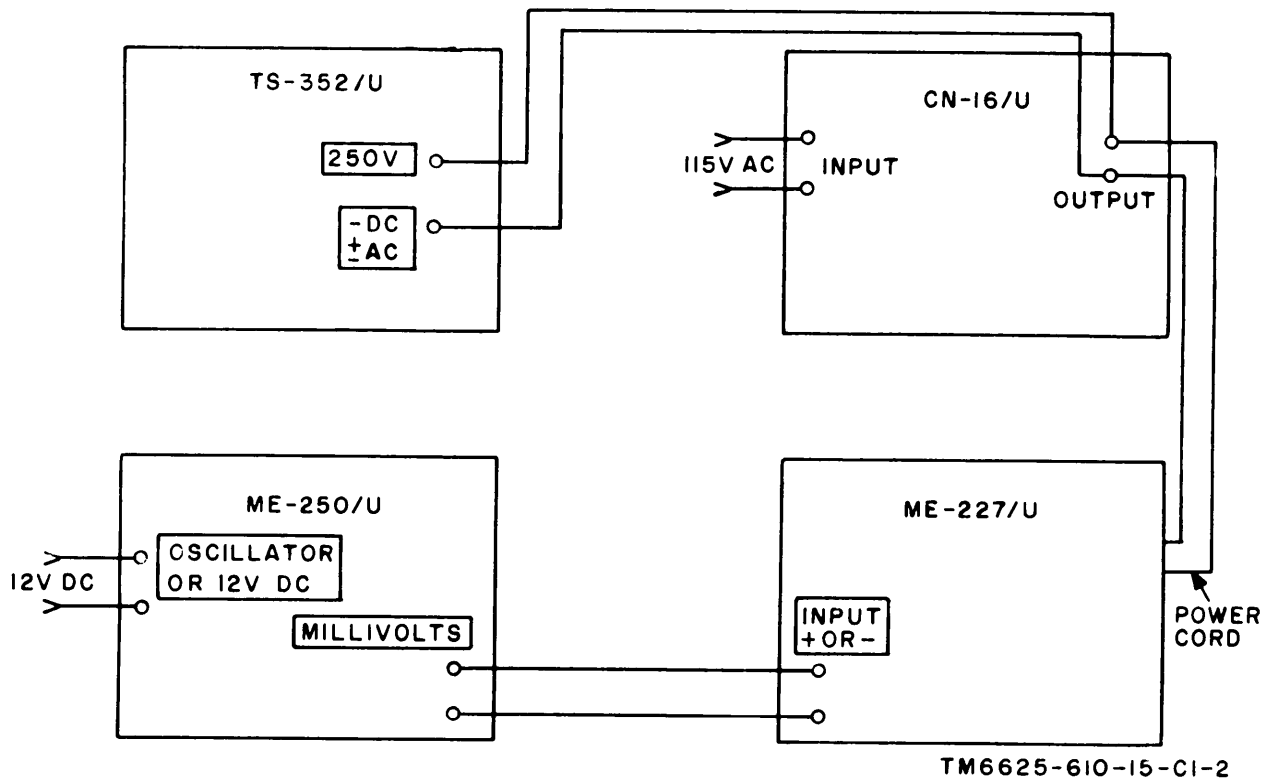

Figure 5. Low voltage input test setup.
a. Connect the equipment as shown in figure 5.